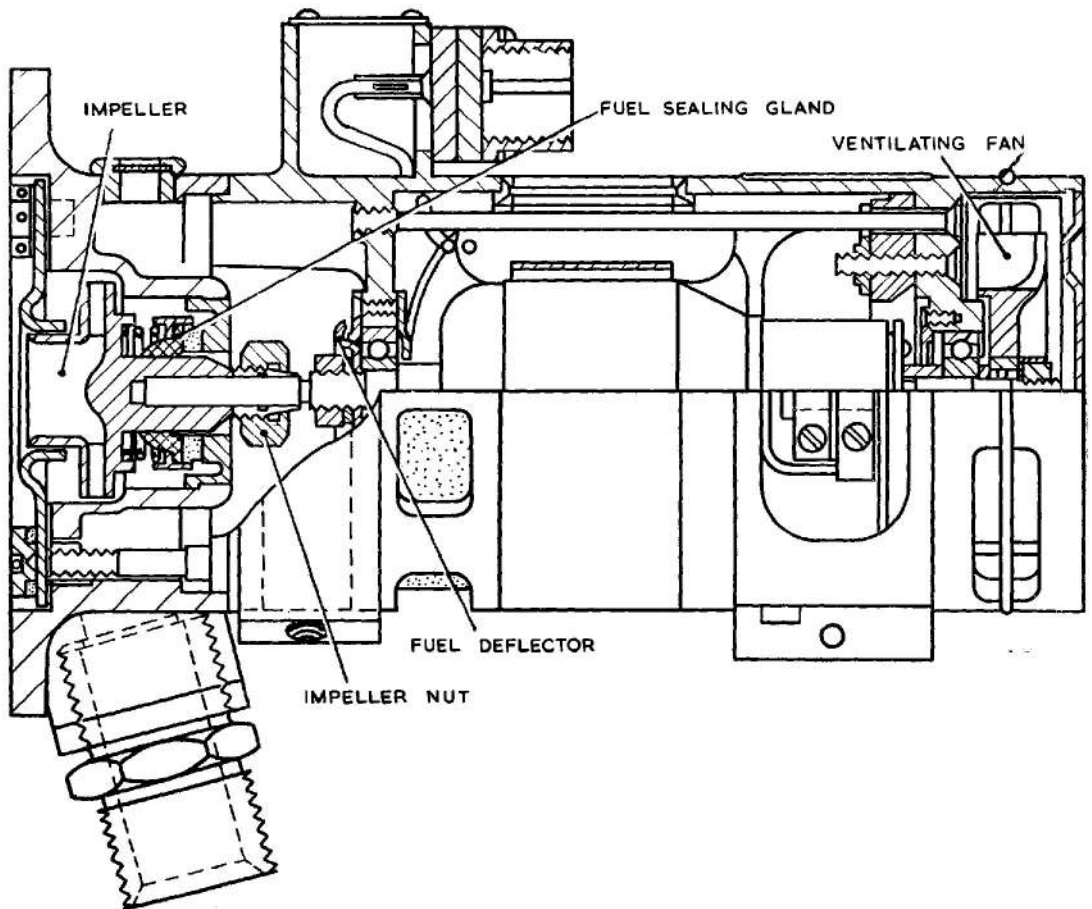

Fig. 2. Sectional view of pump
16. Alternative gland drain connections are provided (*fig. 2*), fitted with  $\frac{1}{4}$  in. B.S.P./AGS couplings, jointed and wired in place. One of these connections is fitted with a blanking cap.
18. Before installation ascertain that the pump turns freely by hand, and remove the blanking cap from the  $\frac{1}{4}$  in. drain outlet, which will be in the lower position when the unit is installed in the aircraft. It is important to remember that the blanking cap must be re-fitted to the alternative drain on the opposite side of the pump (fig. 2).